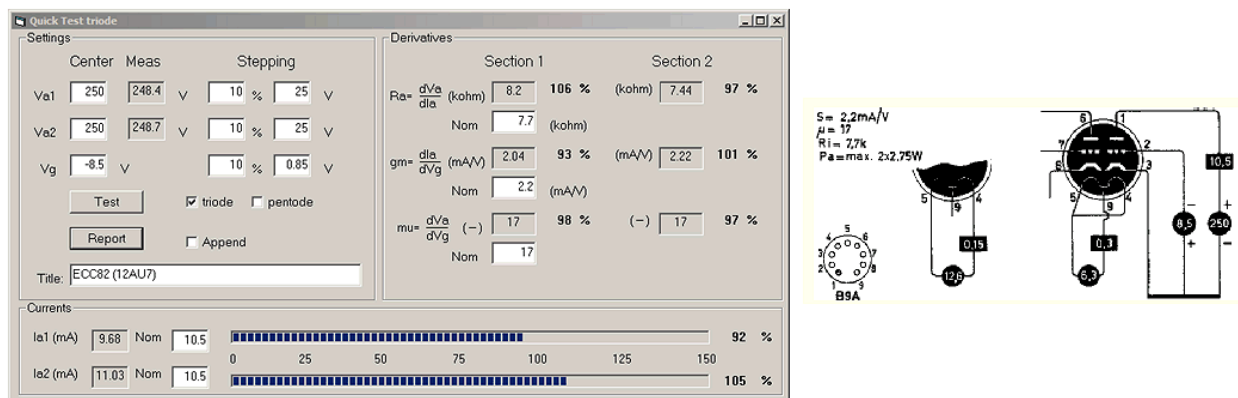

Figure 5.2.2 Quick Test of an ECC82 (12AU7) double triode.
1. The triode Quick Test has been designed so that both sections in double-triodes are tested simultaneously (Fig. 5.2.2). In this case the anode of the second section is connected to the screen terminal of the uTracer. When single triodes are tested the fields for the second triode can simply be ignored.